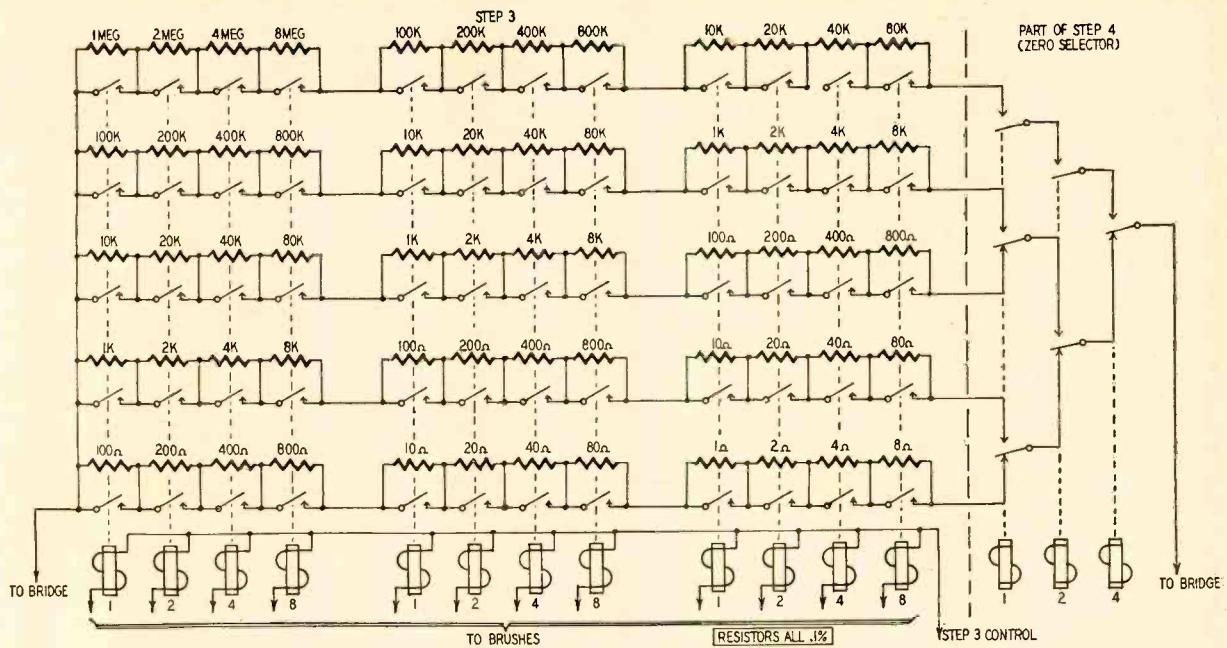

Fig. 4—Circuit selects standard resistances used in bridge measurements.
Step 3 sets up the three significant figures of the resistance. As can be seen from Fig. 4, the resistance bank consists of 60 precision resistors